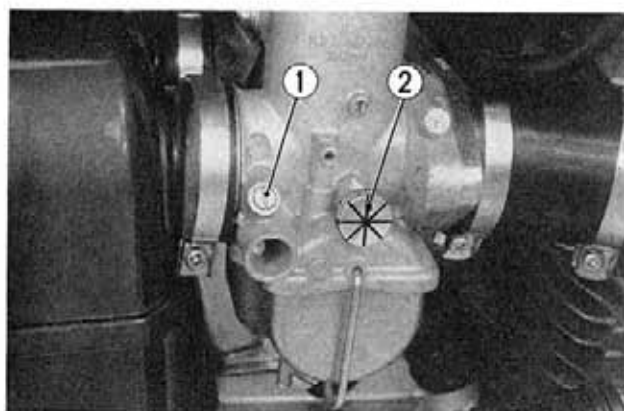

Fig. 6-15 ① Air screw
e. Gently turn the air screws in until they seat, then unscrew them one full turn each. (Fig. 6-15)
(2) Final adjustment